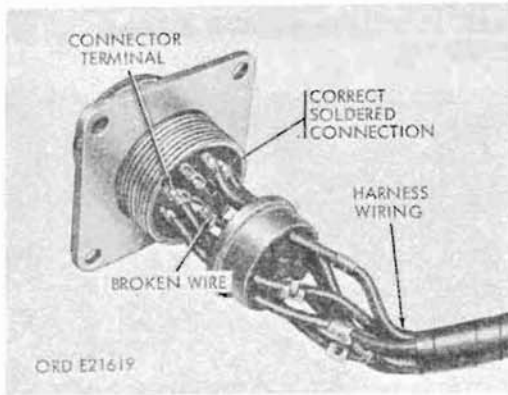

Figure 159. Repair of connector wires
e. Resolder any wires which have broken or pulled off a connector terminal (fig. 159).